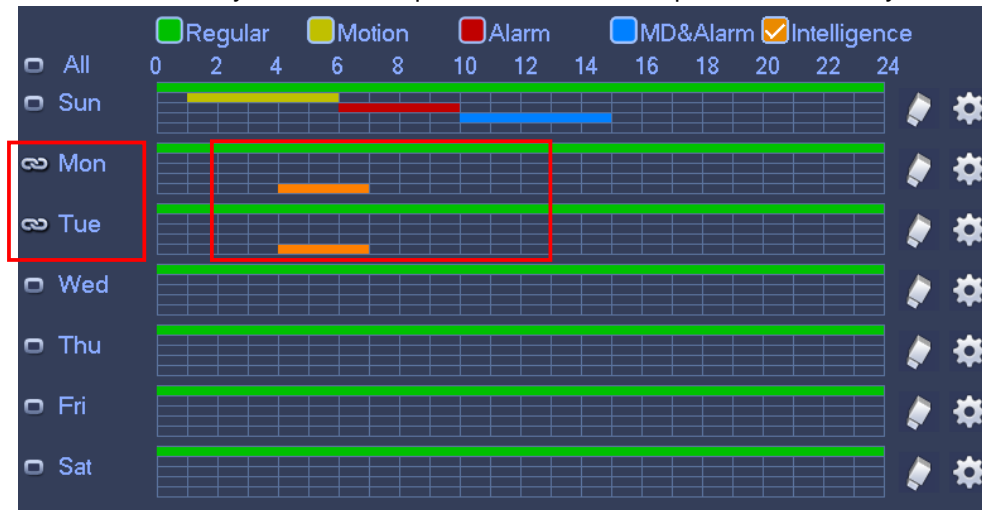

Figure 3-62
- c) Please draw manually to set record period. There are six periods in one day. See Figure 3-62.